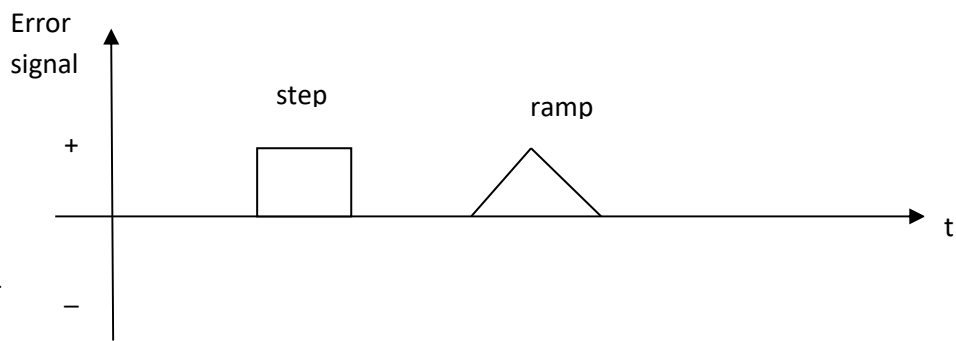

Fig. 4
- Ideal derivative controller mode is never used. Show the output of an ideal controller to the error signal given in fig.4 to support the above statement. (3 marks)